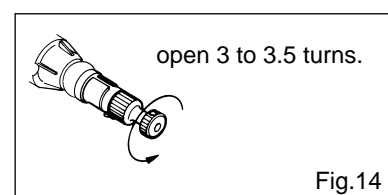

Fig.14
1. Open the needle-valve 3 to 3.5 turns from the fully closed position (Fig.14).